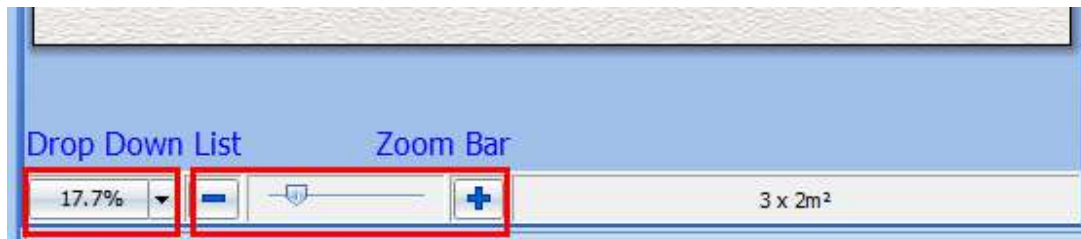

Figure 3.5B
3. The methods of alteration for the display proportion include: (see Figure 3.5B):